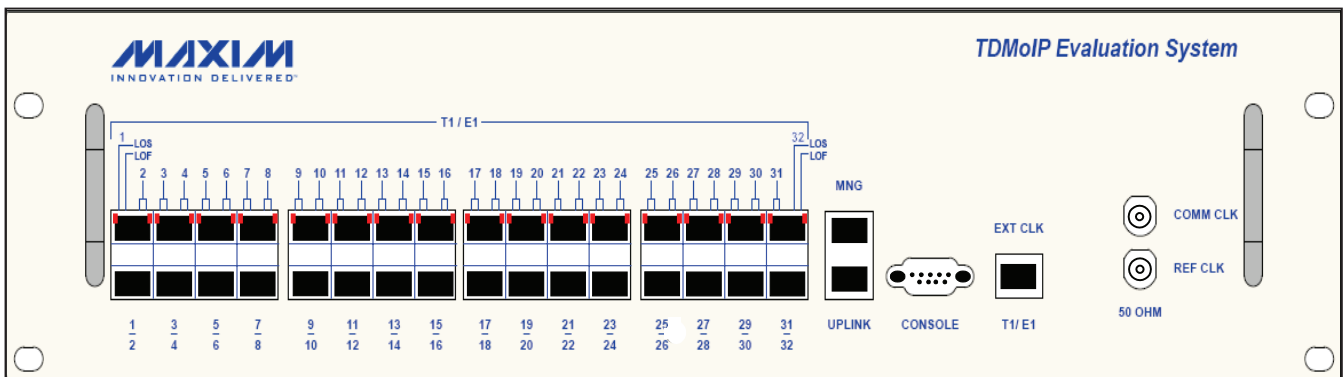

Figure 3-1. DS34S132 EV Kit Front Panel
The unit's LEDs are located on the front panel (see Figure 3-1). Table 3-1 lists the functions of the EV kit LED indicators.
**Note:** LINK and ACT are not shown in Figure 3-1.